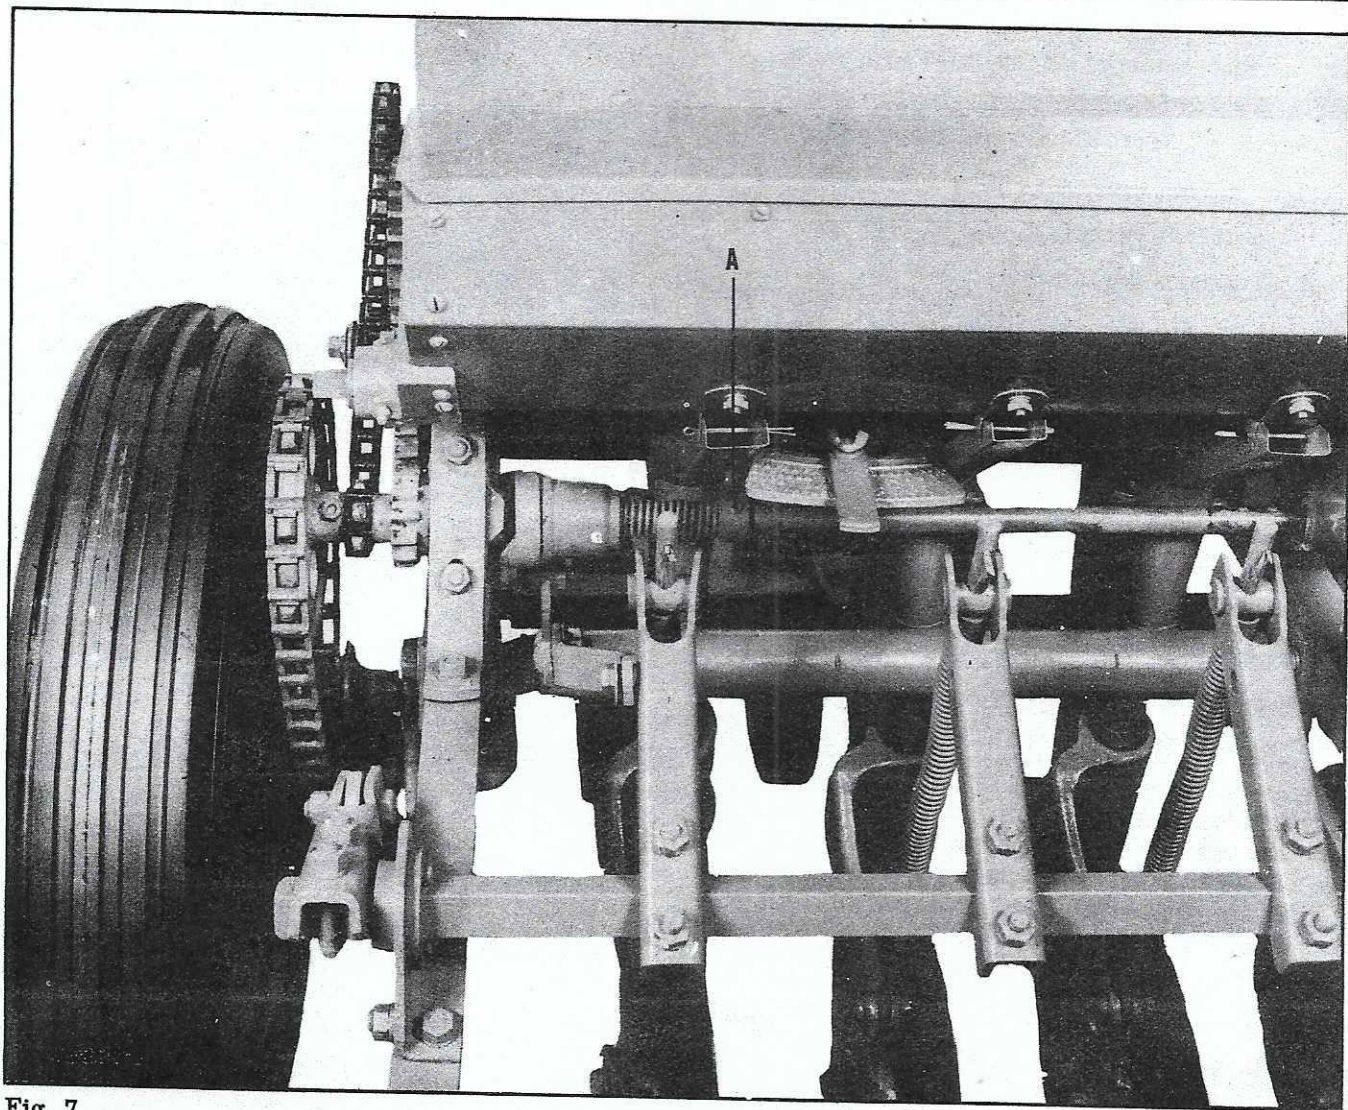

Fig. 7
Spring holding clutch jaw in position should be adjusted to hold jaws firmly together. This adjustment is made by moving collar A, Fig. 7, toward the clutch, thus placing the spring under greater compression.
2. Attach the seed chute holder to the grass seeder box, using 1-1/4" stove bolt furnished with the attachment. Fig. 7.